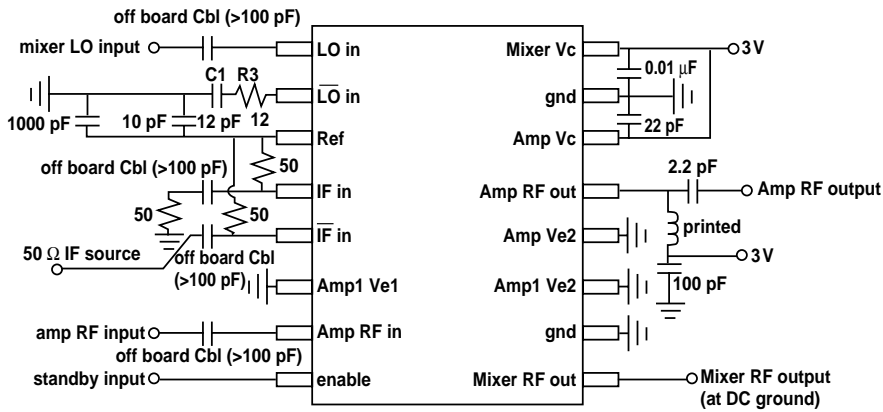

Figure 11. Test Board Configuration.
Circuit of Figure 11 with 1 k Pull up Resistors for the IFs and LO and RF Ports Terminated in 50  $\Omega$ .
- [1] Circuit of Figure 11 with IF and RF Ports Terminated in 50  $\Omega$ .
[2] As above but LO RC combination in Figure 11 changed from 12  $\Omega$  and 12 pF to 0  $\Omega$  and 2.7 pF (recommended use for > 1.75 GHz).
Circuit of Figure 11 with IF and LO Ports Terminated in 50  $\Omega$ .